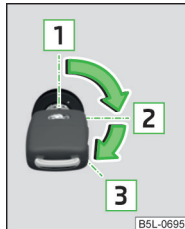

Fig. 91
Positions of the vehicle key in the ignition lock » Fig. 91
- Turn key to position **1** » Fig. 91 on page 101.